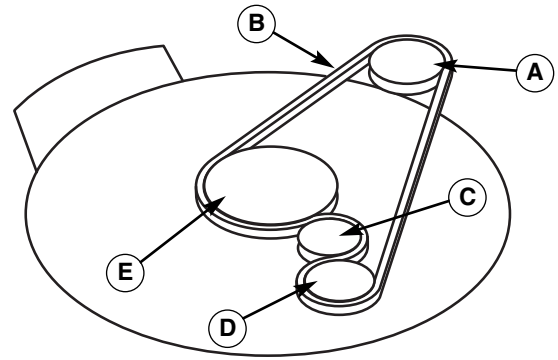

Figure 57. Mower Belt Routing - 33" Decks
2. Pull the idler pulley (C, Figure 57) to release belt tension and remove the mower drive belt (B) from the PTO pulley (A).
4. Install the new belt (B) as shown in Figure 57.